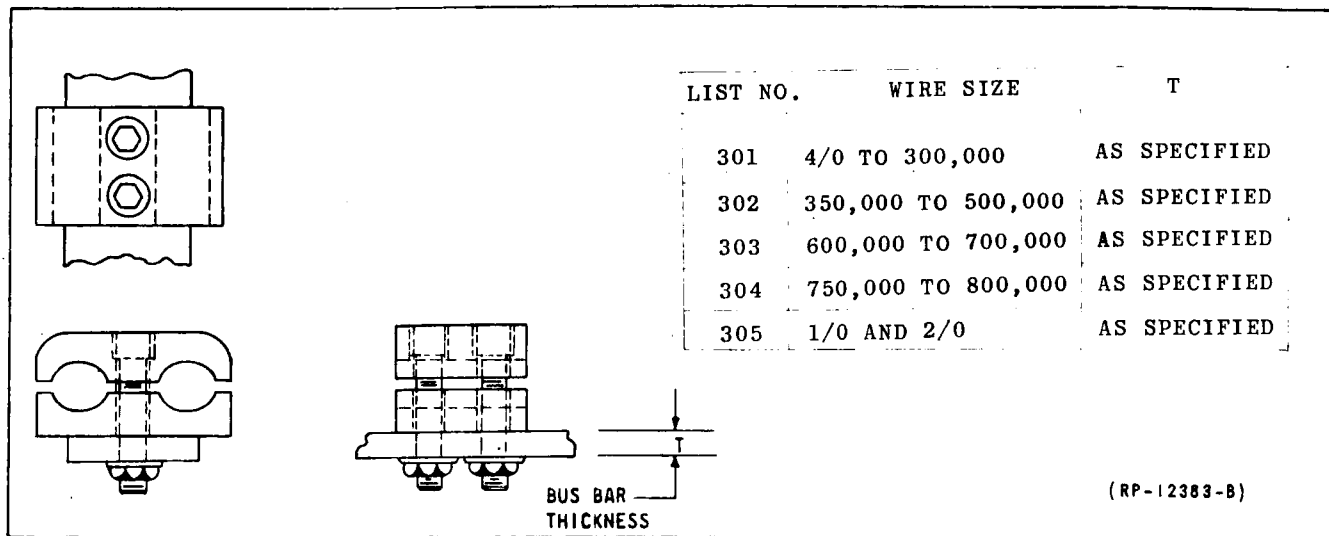

FIG. 13 SOLDERLESS CONNECTORS KS-5537 LIST 300 SERIES (PAR. 11.1)
11.1 This wire to bus bar connector requires the bus bar to be drilled. The connector is made of two halves each with grooves to receive two wire ends and is not provided with a cover. The outside of one half is machined flat for connecting to a bus bar or detail. The machine screws forming part of the connector, clamp both the wire in the connector channels and the connector to the bus bar. See Figure 13.